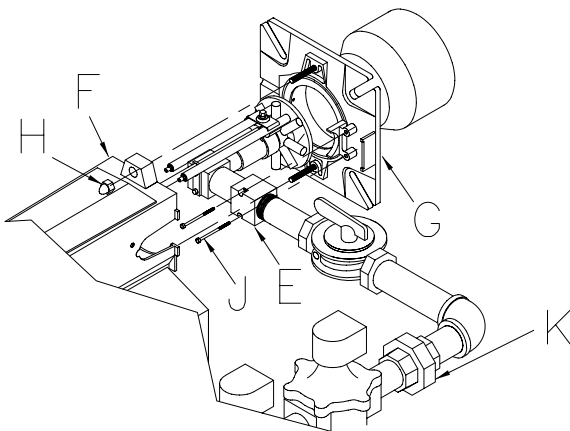

Figure 5
6. Pull the nozzle assembly to check the flame and ignition electrodes. For details, refer to Figure 5, page 7.